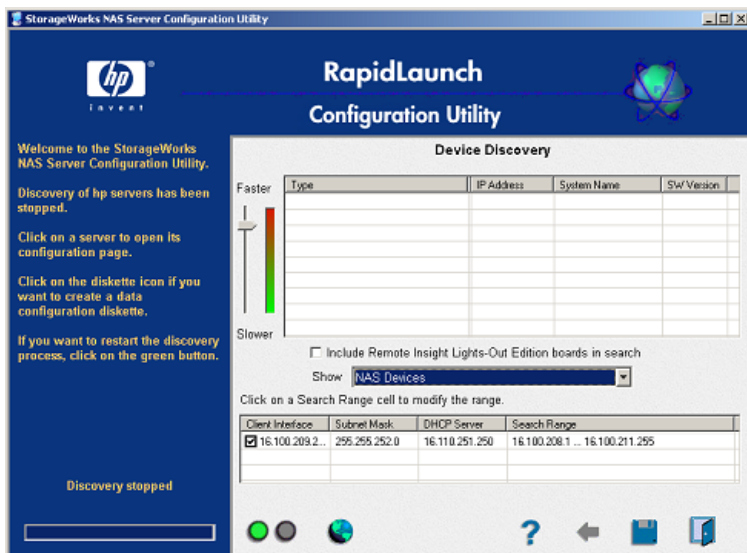

Figure 4: RapidLaunch search screen
7. Return to the PC. Select **StorageWorks NAS** from the **Show** drop-down list to have RapidLaunch list all NAS devices on the network, as shown in Figure 4.